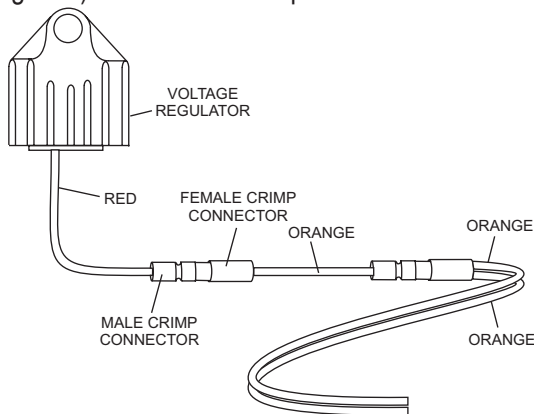

Figure 6. Regulator Red Wire Connection
12. Connect the other end of the ORANGE wire (female crimp) onto the RED wire on to the voltage regulator (Figure 6) with the male crimp connector